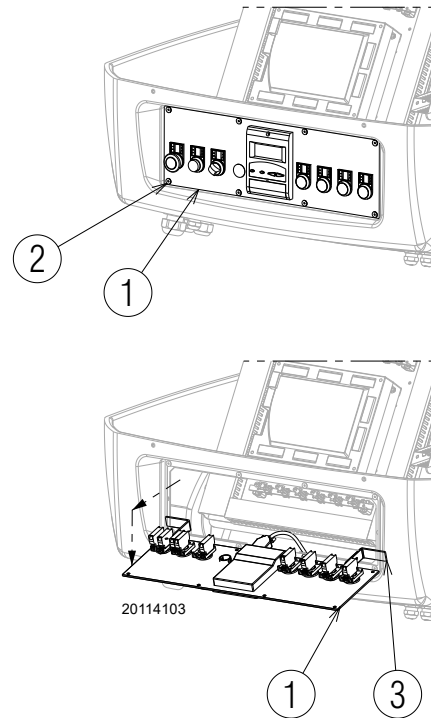

Fig. 45
- extract the control panel 1) and turn it 90°, hooking it with the brackets 3) in the profile of the electrical panel as shown in Fig. 45;